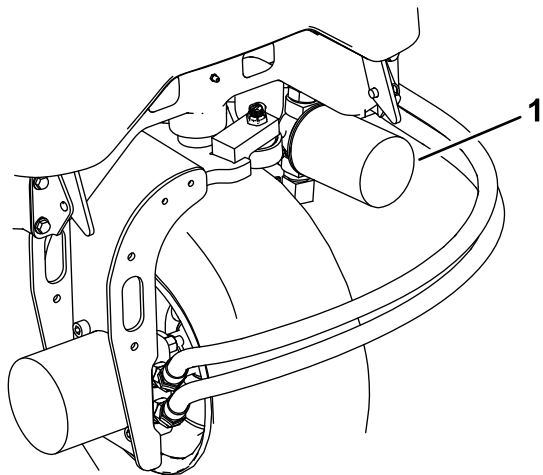
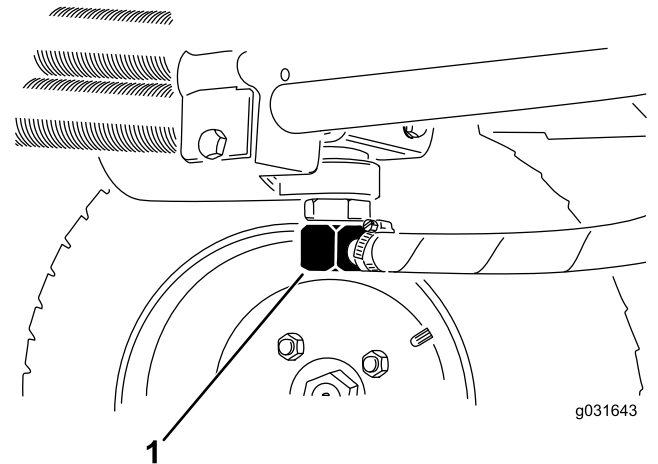

Figure 60
Figure 61
3. Clean around the filter-mounting area, place a drain pan under the filter, and remove the filter (Figure 60).
2. Disconnect the hydraulic line or remove the hydraulic filter and let the hydraulic fluid flow into a drain pan (Figure 60 and Figure 61).
3. Install the hydraulic line when the hydraulic fluid stops draining (Figure 61).